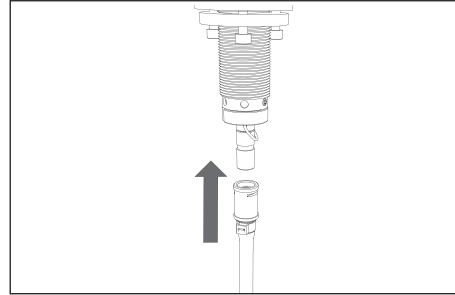

Fig. 8.2 Installing the hose on the boiling water tap
6. Slide the coupling on the red hose that exits the water heater over the boiling water tap connection until it can go no further (see Fig. 8.2).